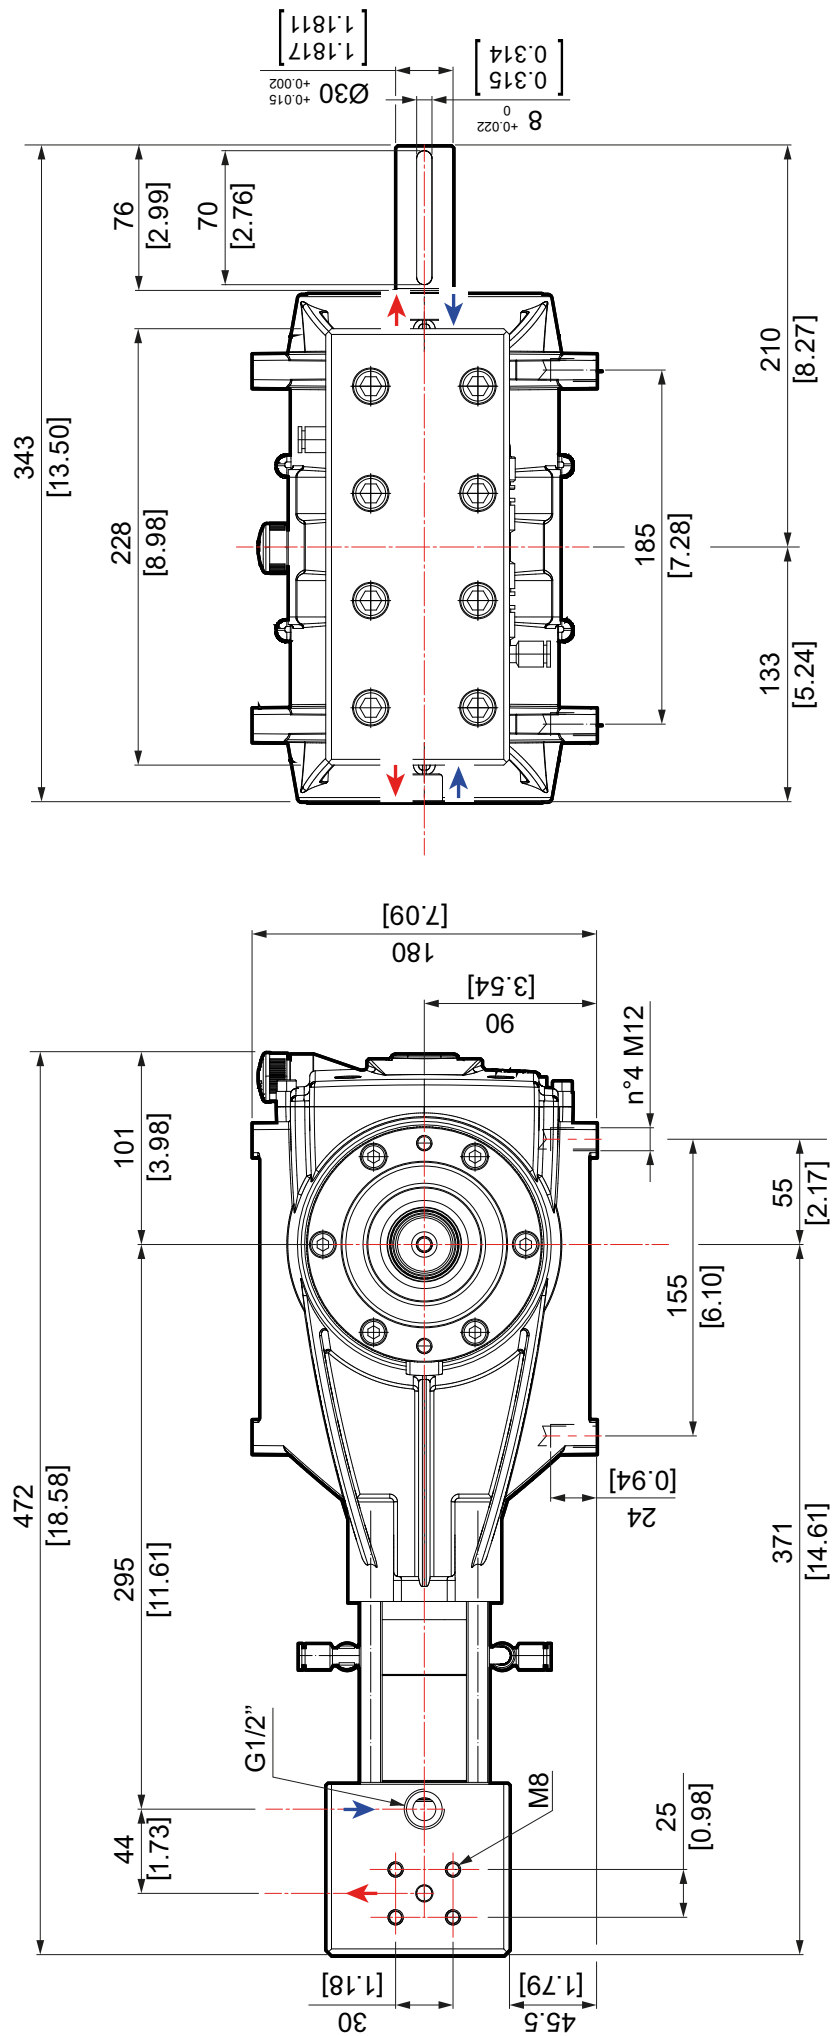

Fig. 4
- The pump must be stably fastened. The supporting surface must be flat and strong enough to avoid any misalignment between the pump and the motor and any vibrations during operation. To fasten the pump, use the four supporting studs in the pump crankcase. For sizes refer to Fig. 4.
For the main dimensions, refer to Fig. 4.